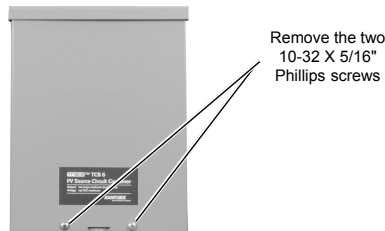

Figure 2
- a. To remove the printed wiring board, remove the four circuit board mounting screws as shown in Figure 2 and lift out the board.